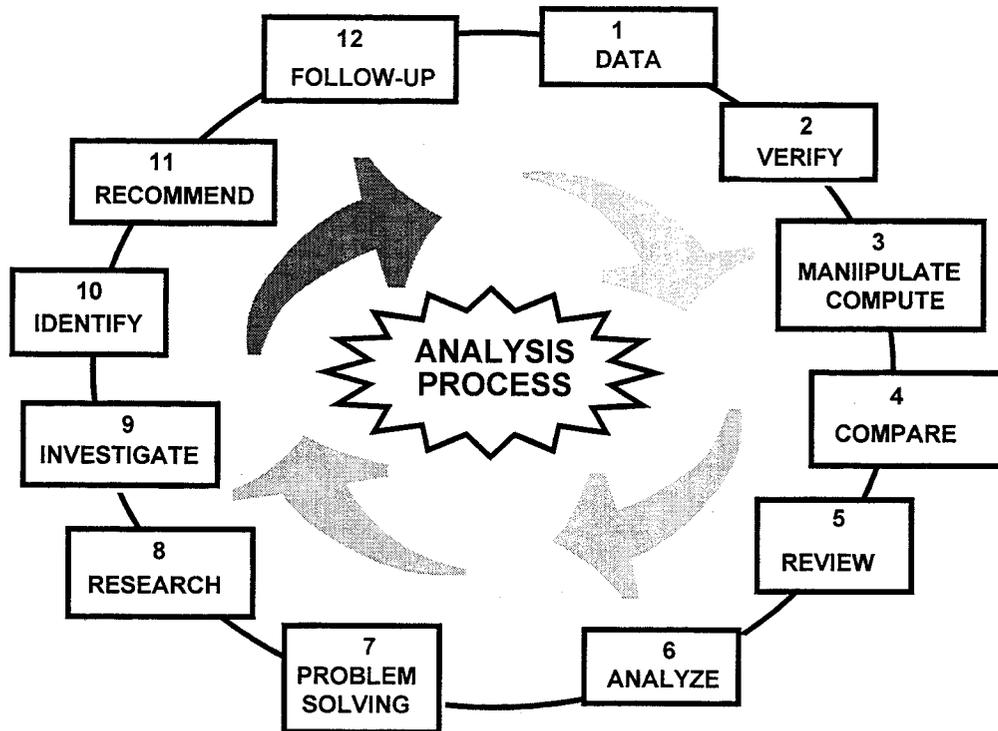

Figure 10-1
10.2.2. The analysis process is a 12-step approach and never ending cycle, so we symbolize it by using a circle (Figure 10.1). This is the process used by analysis to explore indications of performance.